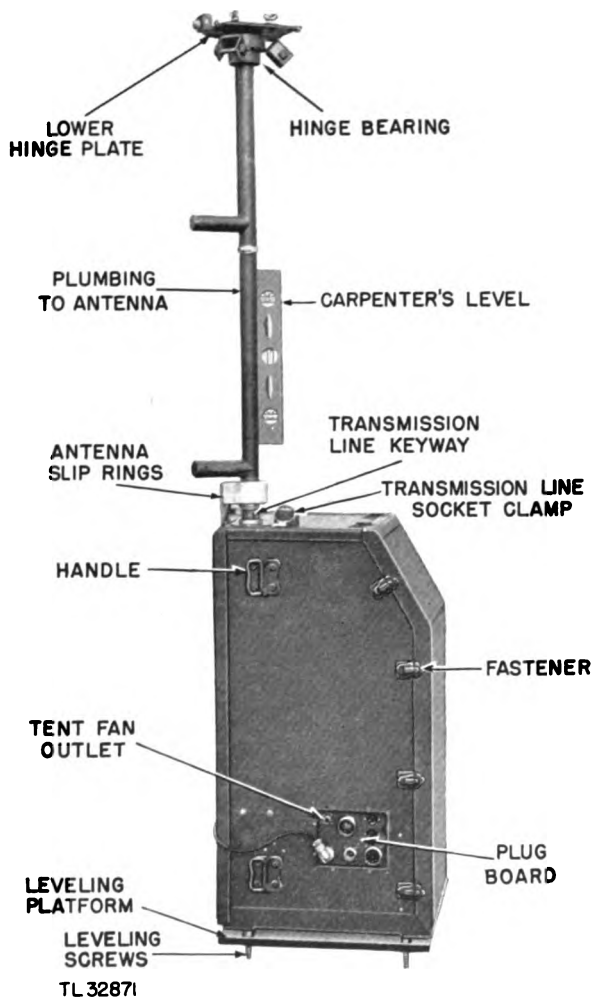
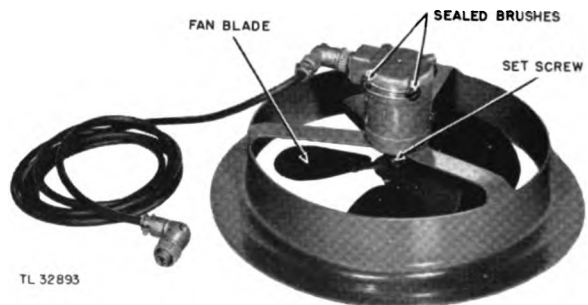

Figure 8. Console in the leveling position.
Figure 21. Tent fan.
a. The ground under the leveling platform of the console must be as firm and flat as possible so that the leveling platform will neither sink into it, nor wobble when the console is mounted on it. Although leveling legs are provided on the console (fig. 8), there is insufficient adjustment on these leveling legs to take care of unusual variations.
d. To level the console, place the carpenter's level on the right side of the mast and adjust the two leveling feet on the right at the same time, or the two feet on the left at the same time (fig. 8). After leveling in this direction, place the carpenter's level on the front of the mast. Move the two front, or the two back screws simultaneously. With a little practice the set can be leveled in a few minutes.
27. INSTALLATION OF TENT FAN. Next install the tent fan (fig. 21) in the tent. Slip the housing for the fan through the boot of the tent, and nail the housing to the tent pole. Make sure that the tent boot does not interfere with the rotation of the fan blades. This fan rotates so that it blows air out through the tent. Plug the cable attached to the fan motor into the console terminal board receptacle marked TENT FAN (fig. 8).